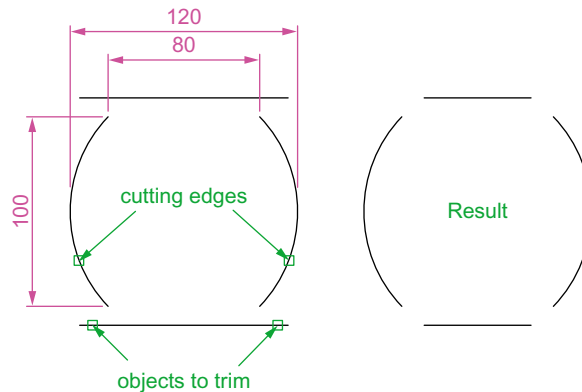

Fig. 5.32 Second example – Trim
## Second example – Trim (Fig. 5.32)
1. Construct the left-hand drawing of Fig. 5.32.
3. Repeat for the other required trims. The result is given in Fig. 5.32.